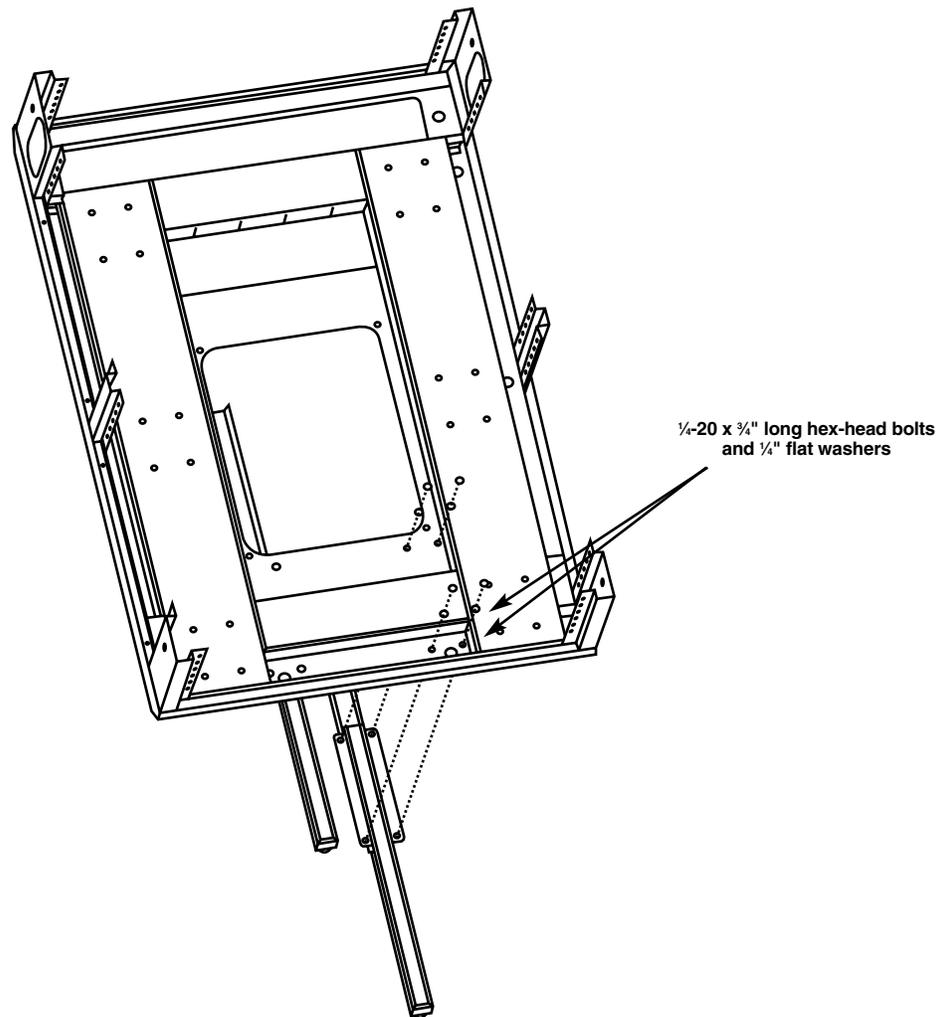

Figure 3-16. Fastening the leg assembly to the enclosure.
2. With the enclosure on glides or casters, place both leg assemblies under the enclosure's front. The glide in the anti-tip leg must be at the assembly's front end (see Figure 3-16).